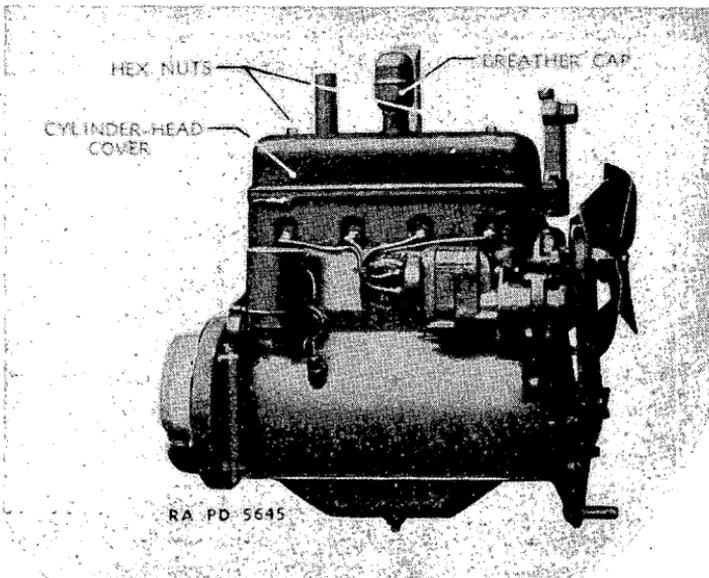

FIGURE 7.—Engine—right side view.
*a.* Remove the cylinder head cover (fig. 7) by removing the two hex nuts and their associated washers which hold it in place and lift off.